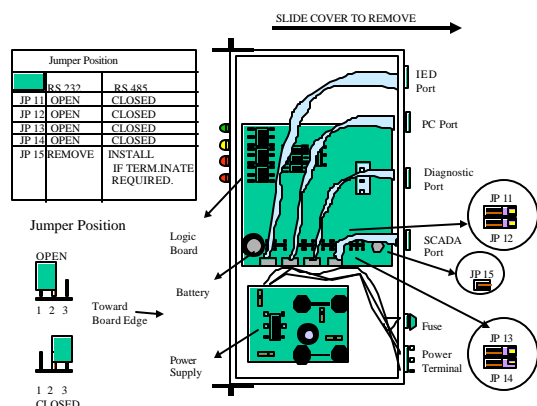

Figure 3 - ORION Jumper Locations
3. Configure the IED port in RS 485 mode. The IED port is shown in Figure 1, illustrations 3 and 3a. Some units may have a DB 9 port for RS 485 device connection whereas others may have three screw terminals for an IED port physical connection. Remove the two screws from the rear of the unit as shown in Figure 1, illustration 4. Slide the metal cover away from the unit to expose the electronic boards contained within the enclosure. As shown in Figure 3, five jumpers, JP 11, JP 12, JP 13, JP 14, and JP15 shall be placed in the appropriate positions as indicated in Figure 3. Breakouts of each of the jumper locations are shown in Illustration 1 and Illustration 2. The position of the jumpers in the "open" or "closed" positions are highlighted.